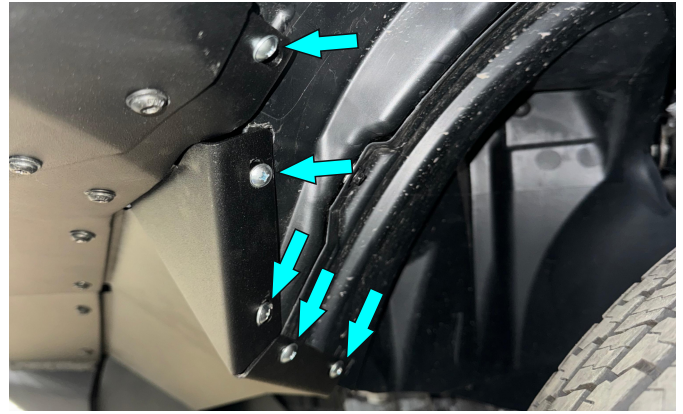

Fig.95
93. Secure flaps using screws (item I) (fig. 95).